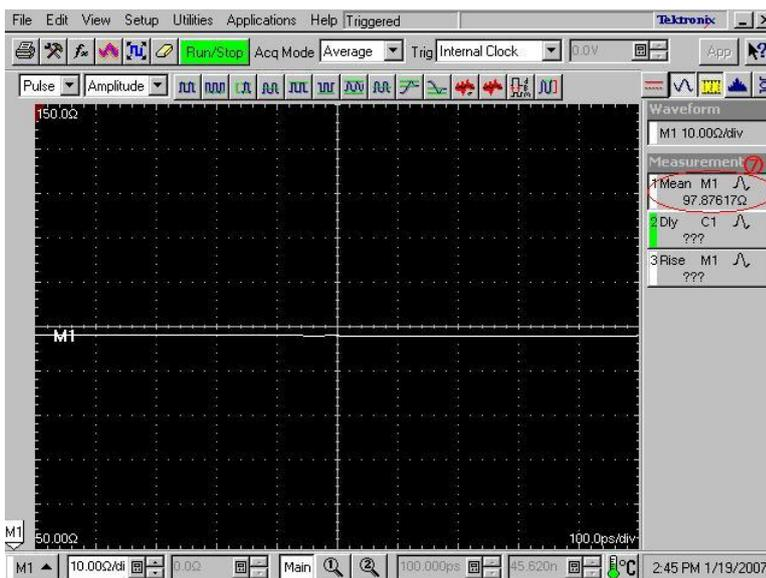

Figure 12 Measuring the M1 value
15. Measure the mean value of **M1** (see Figure 12).